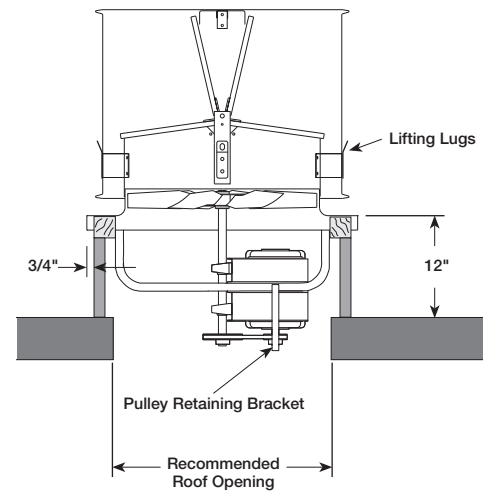

Figure 2 — Typical Roof Mounting
6. Reattach pulley retaining bracket with 5/16" fasteners. Center bracket over motor shaft, with 3/4" to 1 1/2" clearance between the motor sheave and bracket. Refer back to Figure 2, page 3.